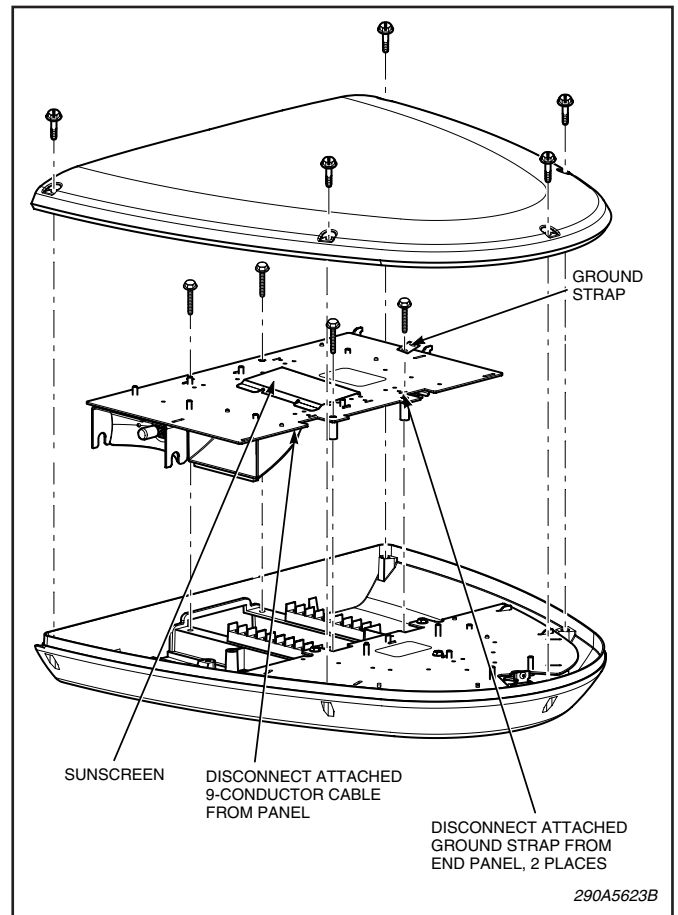

Figure 1. 2005394 Panel Replacement.
2. See figure 1. For replacing the 2005394 (finished model number S25394) panels within the end domed section, proceed as follows: